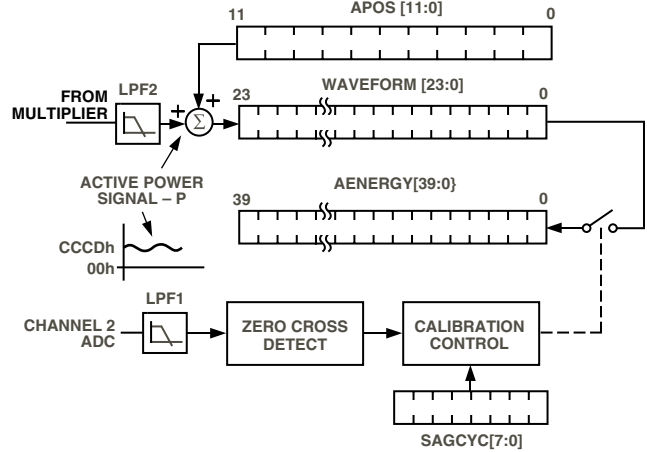

Figure 34. Energy Calculation in Calibration Mode
As mentioned in the last section, the discrete time sample period (T) for the accumulation register is $1.1 \mu s$ ($4/CLKIN$). With full-scale sinusoidal signals on the analog inputs and the Active Power Gain register set to 000h, the average word value from LPF2 is CCDh—see Figure 34. The maximum value that can be stored in the Active Energy register before it overflows is 2^{39} or 7F, FFFF, FFFFh. Therefore the integration time under these conditions is calculated as follows:
By using the on-chip zero-crossing detection on Channel 2 the energy calibration can be greatly simplified and the time required to calibrate the meter can be significantly reduced. To use the zero-cross detection the ADE7756 is placed in calibration mode by setting Bit 7 (CMODE) in the Mode register. In Calibration Mode the ADE7756 accumulates the Active Power signal in the Active Energy register for an integral number of half cycles, as shown in Figure 34. The number of half-line cycles is specified in the SAGCYC register. The ADE7756 can accumulate Active Power for up to 255 half-cycles. Because the Active Power is integrated on an integral number of line cycles, the sinusoidal component is reduced to zero. This eliminates any ripple in the energy calculation. Energy is calculated more accurately and in a shorter time because integration period can be shortened. At the end of an energy calibration cycle the SAG flag in the Interrupt Status register is set; this will cause the SAG output to go active low. If the SAG enable bit in the Interrupt Enable register is enabled, the $\overline{\text{IRQ}}$ output will also go active low. Thus the $\overline{\text{IRQ}}$ line can be used to signal the end of a calibration also. Another calibration cycle will start as long as the CMODE bit in the Mode register is set. Note that the result of the first calibration is invalid and must be ignored. The result of all subsequent calibration cycles is correct.